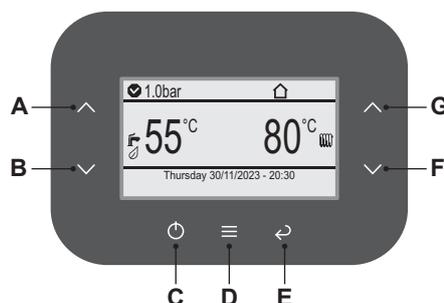
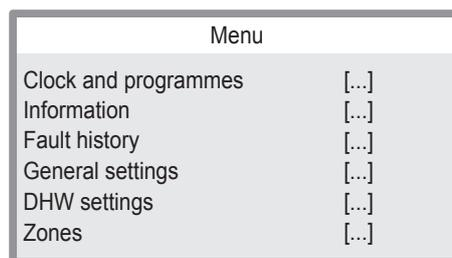
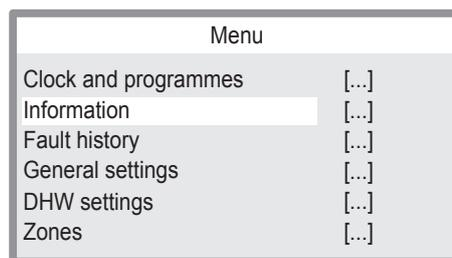

Figure 4.7
Figure 4.8
Figure 4.9
- 1 Press key "D" (Figure 4.7) to access the main menu (Figure 4.8).
- 2 Press key "A" or "B" (Figure 4.7) to select the desired menu (Figure 4.9).
- 3 Press key "D" (Figure 4.7) to access the selected menu.
- 4 Press key "A" or "B" (Figure 4.7) the scroll through the list (Figure 4.10).
- Press key "E" (Figure 4.7) repeatedly to return to the previous levels.